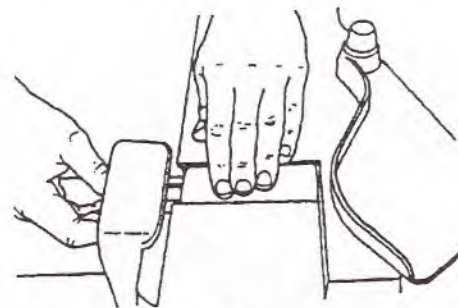

Fig. 3
5. Again grasp the jointer's power coupler while you insert the cardboard into the cutter opening, as shown in Fig. 3 Use a thin stick to help you tuck the cardboard into the opening.